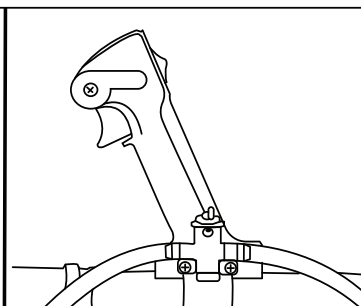

FIGURE 2
4.2.2 Move the throttle lever to the down position (O) to stop the engine. See Figure 2&3.
To adjust the speed of water use the throttle handle to increase the engine's speed. See Figure 2.